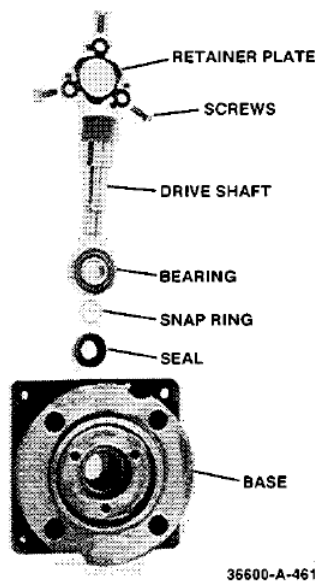

Figure 5-19. Drive Shaft
25. Remove 3 screws and retainer plate. Lift out drive shaft seal and gasket (Figure 5-19).